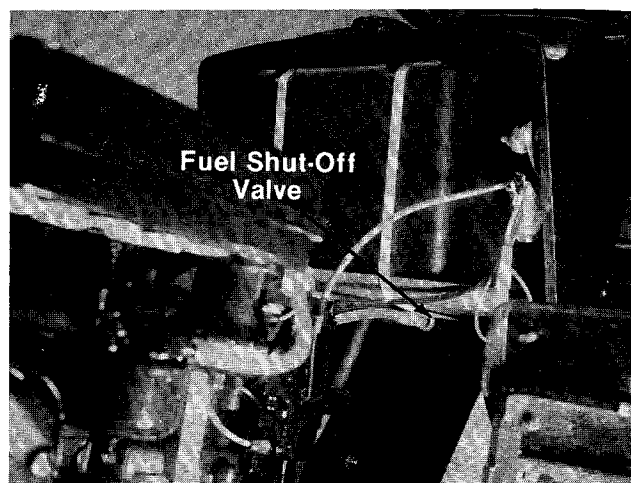

FIGURE 47.
2. Close the fuel shut-off valve located under the gasoline tank. See figure 47.